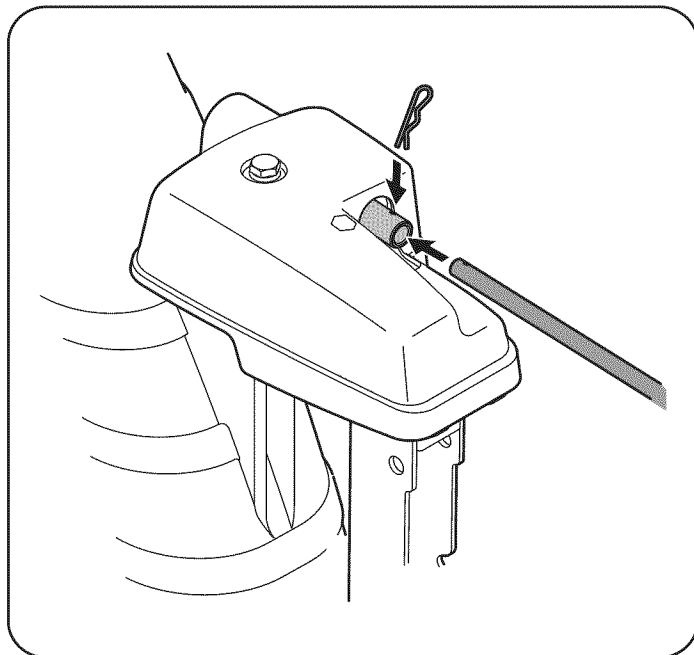

Figure 8
10. Insert chute directional control into rear of the chute control head. Secure the chute directional control to the chute control head with the hairpin clip removed in Step 8. See Figure 8.